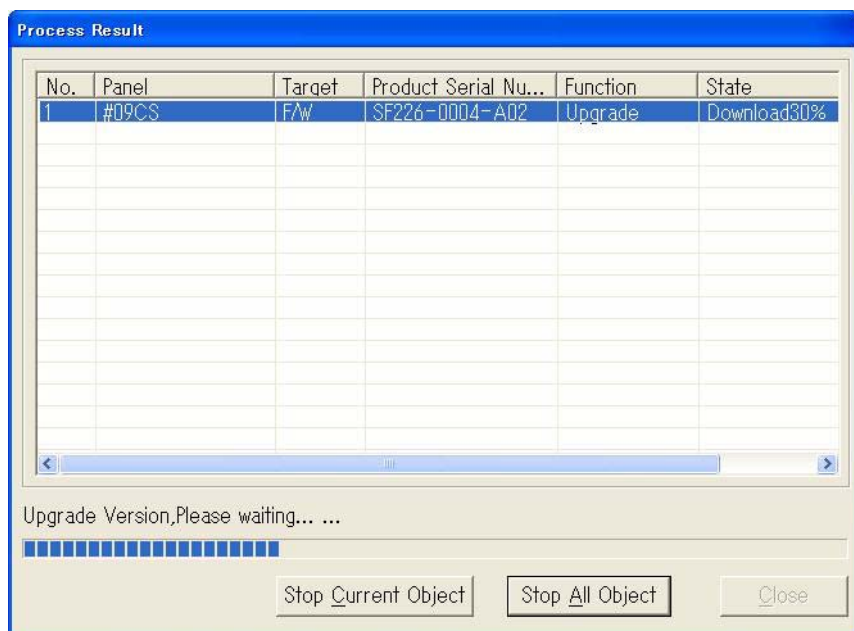

Fig. 4-10-6 Upgrade F/W and FPGA Dialog Box during Upgrading
- 14 During the upgrading operation, the window is shown in **Fig. 4-10-6**.